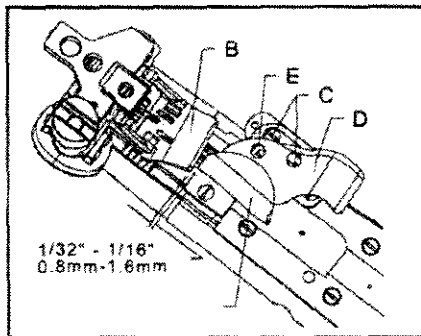

FIG.22
Slide folder (A, Fig. 22) on arm . The folder should be as close to the front of presser foot (B) as possible ,making sure to avoid the presser foot contacting the folder when sewing across seams. If adjustment is necessary loosen screws (C) to move entire folder left to right or front to back as required. If just adjustment of upper scroll (D) is needed loosen screw (E) and position scroll to obtain proper seam margin.